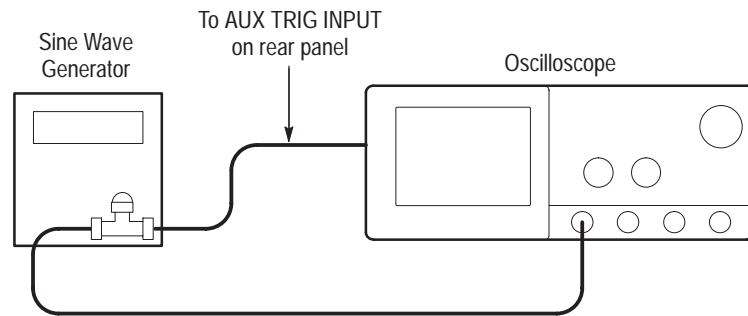

Figure 4-17: Initial test hookup
- Connect the signal output of the generator to a BNC T connector. Connect one output of the T connector to **CH 1** through a 50 Ω precision coaxial cable. Connect the other output of the T connector to the **AUX TRIG INPUT** at the rear panel. See Figure 4-17.